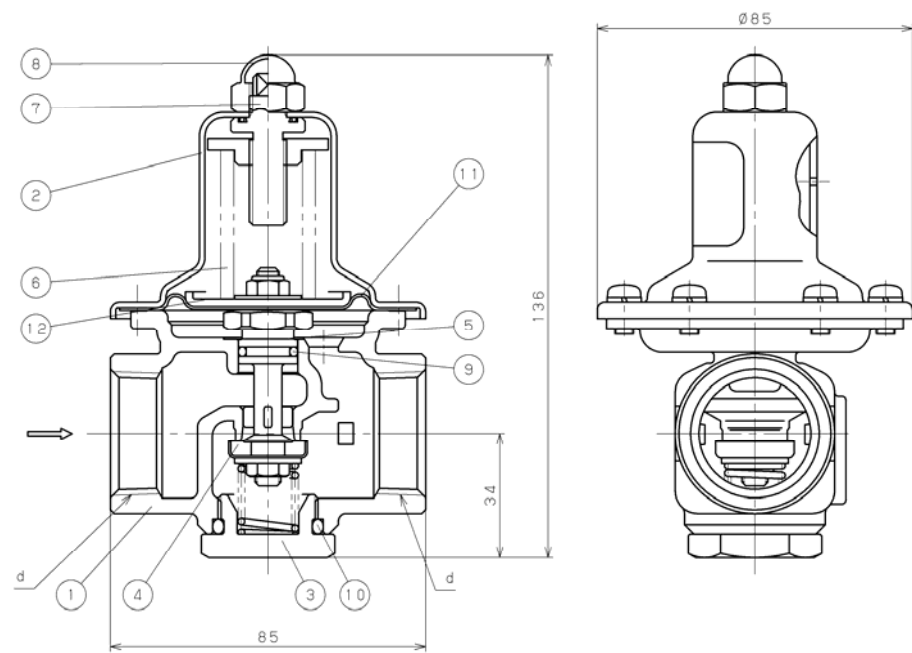

fig.2
3.2 GD-43-10 Type, GD-43G-10 Type (Refer to fig.2 , table 3 , and table 4.)